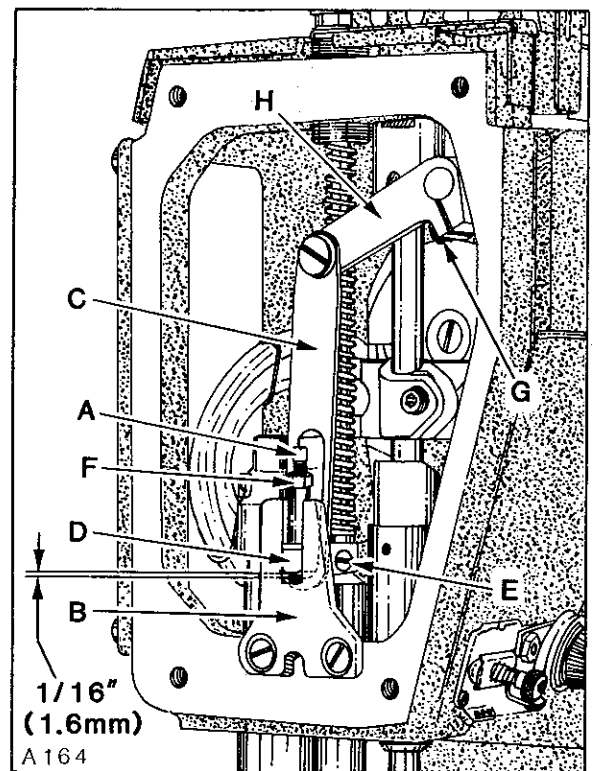

Fig. 34
With needle bar at bottom of stroke and presser foot resting squarely on throat plate, there should be a minimum clearance of $\frac{1}{64}$ inch (0.4mm) between the bottom of screw (A, Fig. 34) and bottom of slot in presser bar guide plate (B). At this time, there should be at LEAST $\frac{1}{32}$ inch (0.8mm) clearance between bottom of presser bar guide and top of lower presser bar bushing. There should also be $\frac{1}{16}$ inch (1.6mm) clearance between bottom of slot in lifter lever link (C) and bottom of presser bar guide (D) when foot lifter lever is released. If adjustment is required, proceed as follows: